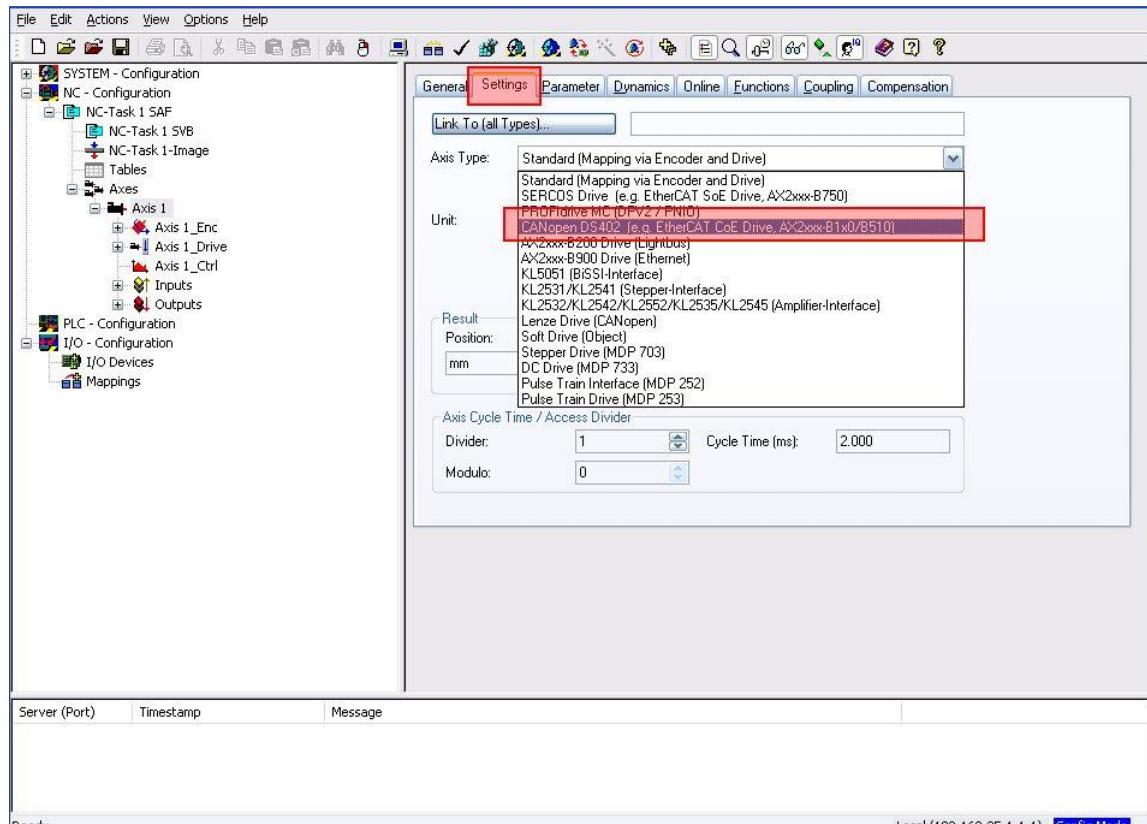

Figure 40: TwinCAT 2 CiA402 axis setup
- TwinCAT 2 :** Add NC task ->Add continuous Axis -> set Axis type to “CANopen DS402” (see Figure 40).